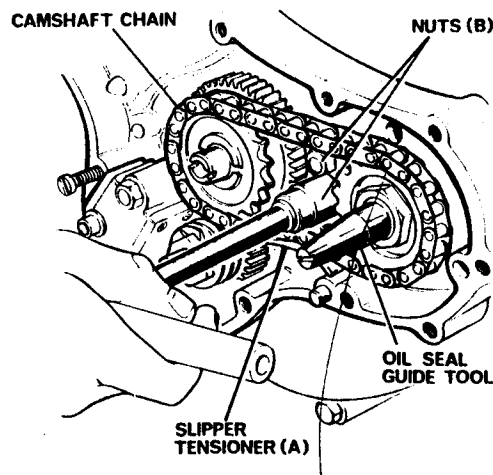

Fig. K13 Adjustment, Camshaft chain.
The camshaft chain (Fig. K13) is provided with a slipper tensioning device (A). To adjust the chain, release the two nuts (B) securing the slipper, and move as required. The permissible amount of free up and down movement measured in the centre run of this chain is $\frac{3}{8}$ in.